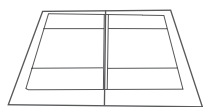
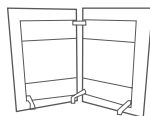

Figure 1A
Figure 1B
- 1 Carefully place the base flat (Figure 1A) or in a side clamshell position (Figure 1B).